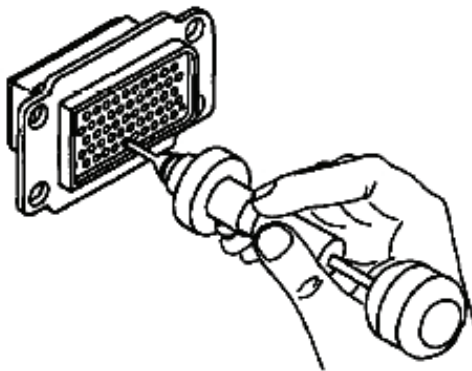

Figure 17. Unlocking Contact Retention Mechanism with Unwired Contact Removal Tool
- e. Insert removal tool tip into contact cavity to butt contact wire barrel; then slide removal sleeve over contact and exert pressure until sleeve bottoms. (Figure 17).